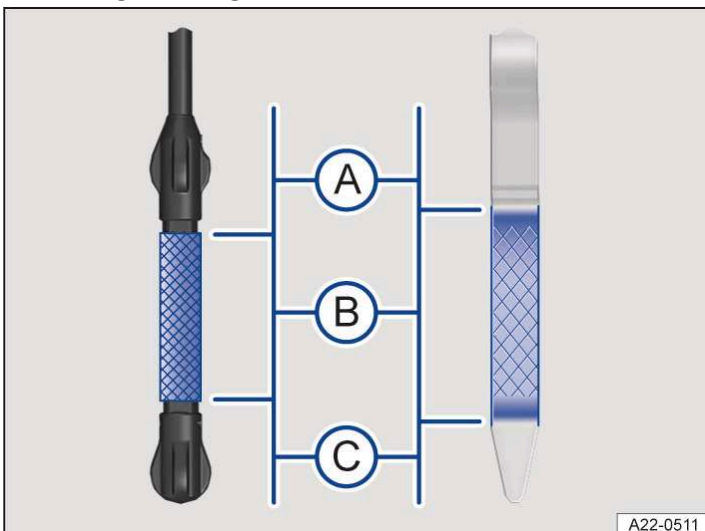

Fig. 2 Engine oil level markings on the oil dipstick (variants).
3. Pull out the oil dipstick again and read the engine oil level on the dipstick as follows → *Fig. 2*:
- (A) Engine oil level is too high. Observe any messages on the instrument cluster display or seek expert assistance if necessary.
- (B) Engine oil level in the normal range. The engine oil can be filled to the upper limit of this range, e.g. if the engine is operated at high loads → .
- (C) Engine oil level too low. It is essential to add engine oil. If necessary, observe the messages in the instrument cluster display → .